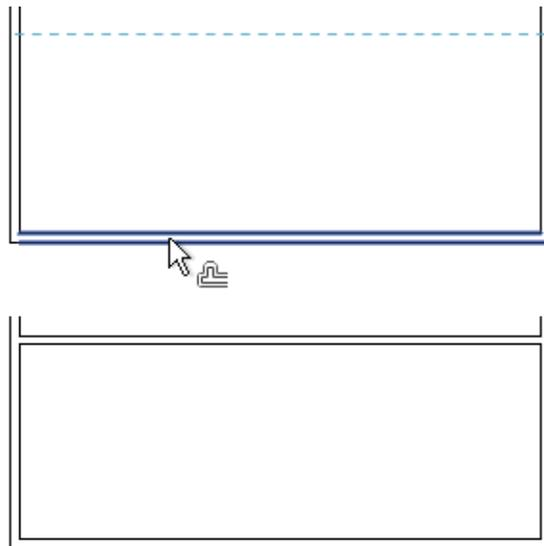

**Figure 2–39**
3. Select the elements that you want to trim or extend. For trimming, select the side you want to keep, as shown in Figure 2–39.